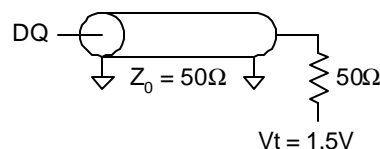

Fig. 1 OUTPUT LOAD EQUIVALENT
5. Test conditions as specified with the output loading as shown in Fig. 1 unless otherwise noted.
15. Capacitance derating applies to capacitance different from the load capacitance shown in Fig. 1.